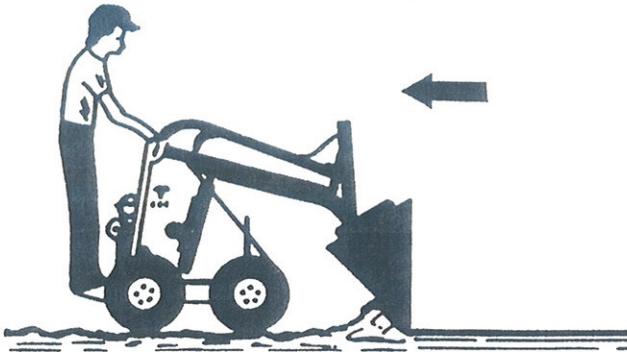

FIGURE 15
2. To level a filled area, tilt bucket forward and drive machine backwards to drag bucket and spread material, as in **Figure 15**.